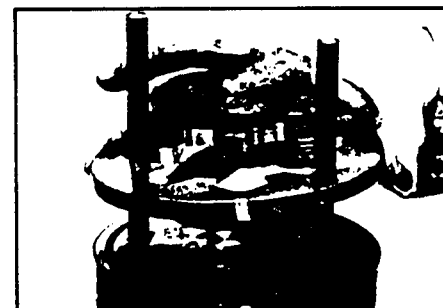

Figure 58
18. Assemble the commutator ring (6) over alignment studs onto the manifold. SEE FIGURE 58.